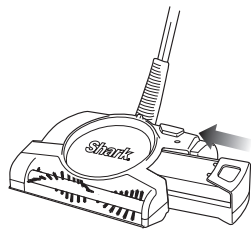

Fig. 10
- 3 Re-insert the dust container into the unit. (Fig. 10)